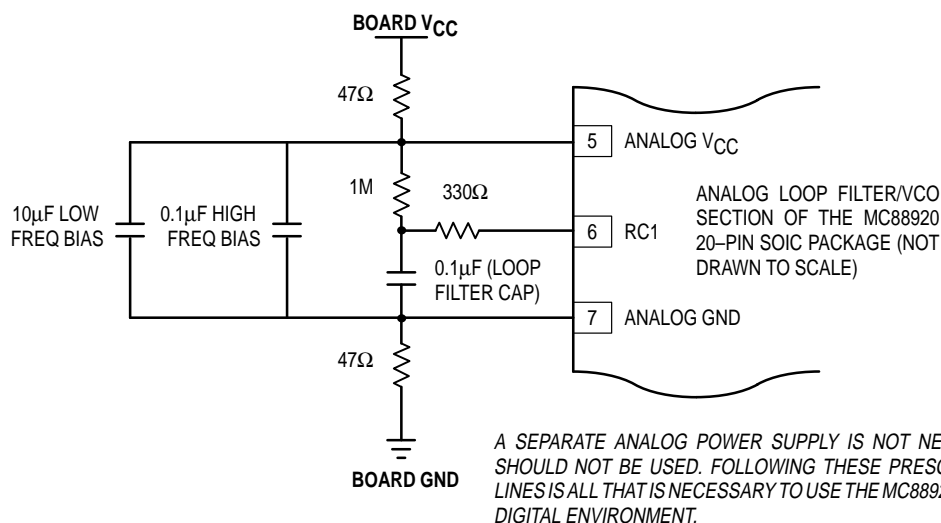

Figure 7. Recommended Loop Filter and Analog Isolation Scheme for the MC88920
- Figure 7 shows a loop filter and analog isolation scheme which will be effective in most applications. The following guidelines should be followed to ensure stable and jitter-free operation:
purpose of the bypass filtering scheme shown in Figure 7 is to give the 88920 additional protection from the power supply and ground plane transients that can occur in a high frequency, high speed digital system.
- In addition to the bypass capacitors used in the analog filter of Figure 7, there should be a 0.1 μ F bypass capacitor between each of the other (digital) four V_{CC} pins and the board ground plane. This will reduce output switching noise caused by the 88920 outputs, in addition to reducing potential for noise in the 'analog' section of the chip. These bypass capacitors should also be tied as close to the 88920 package as possible.